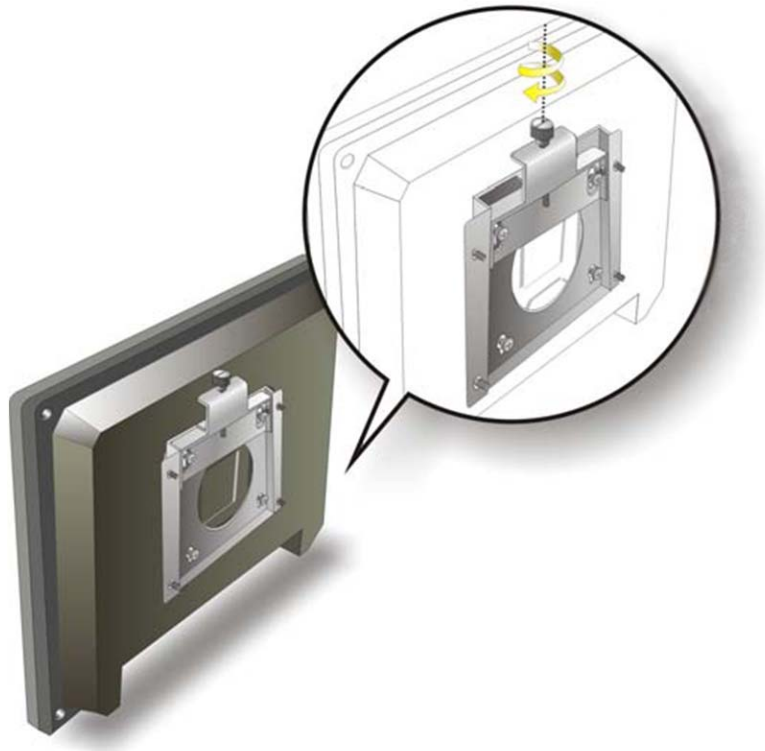

Figure 4 – Secure the DSM800
Step 9: Secure the DSM800 by fastening the retention screw of the wall-mounting bracket. (Figure 4).